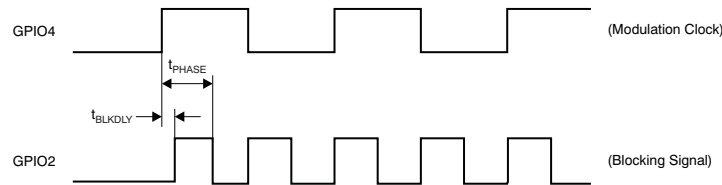

Figure 50. Internal Respiration (RESP_CTRL = 11b) Timing Diagram
In this mode GPIO2, GPIO3, and GPIO4 are automatically configured as inputs and cannot be used for other purposes. The signals must be provided as described in Figure 50. Do not use the internal master clock in this mode.
Table 10. Switching Characteristics for Figure 50 (1)